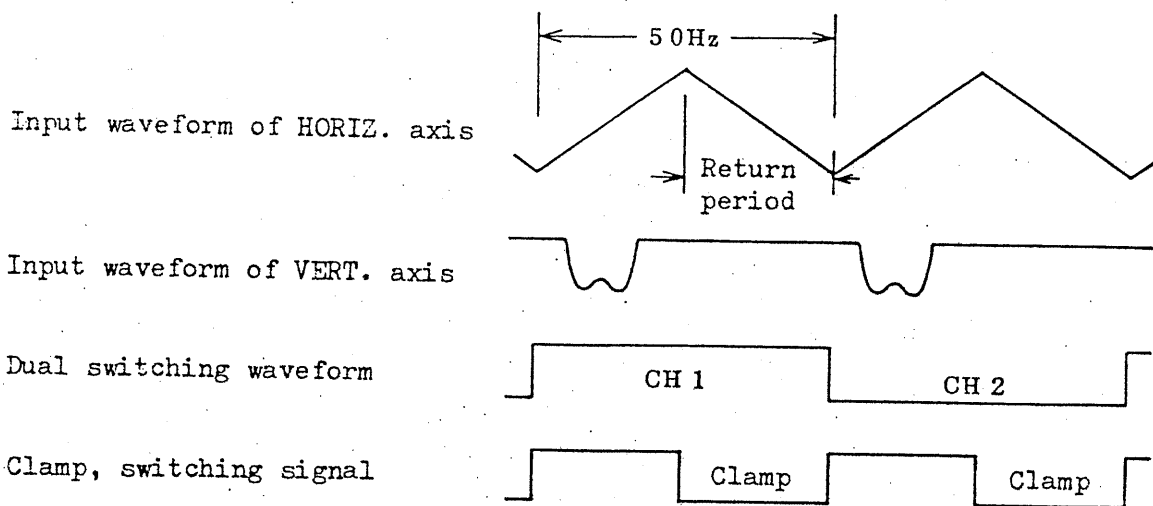
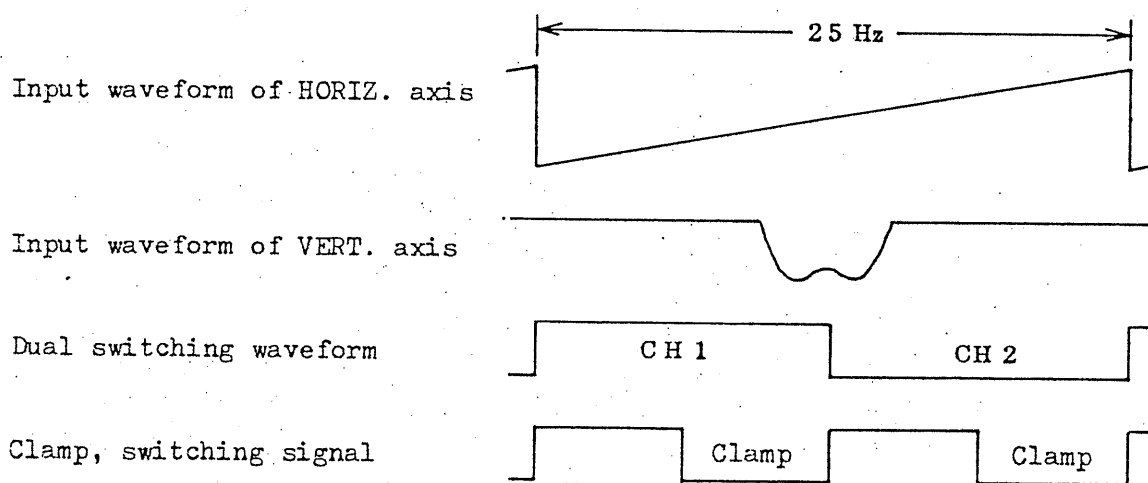

Fig. 3-4
Fig. 3-6
The actions of Items (1) through (4) as following are illustrated in Fig. 3.4 ~ Fig. 3-6.
- (1) When the sweep frequency is 50 Hz and the sweeps are with return periods, the CH1, CH2 and ALT operations are possible as shown in Fig. 3-4 and the clamp function is effective for each operation.
- (3) When the sweep frequency is 25 Hz, the clamp function is ineffective as shown in Fig. 3-6.